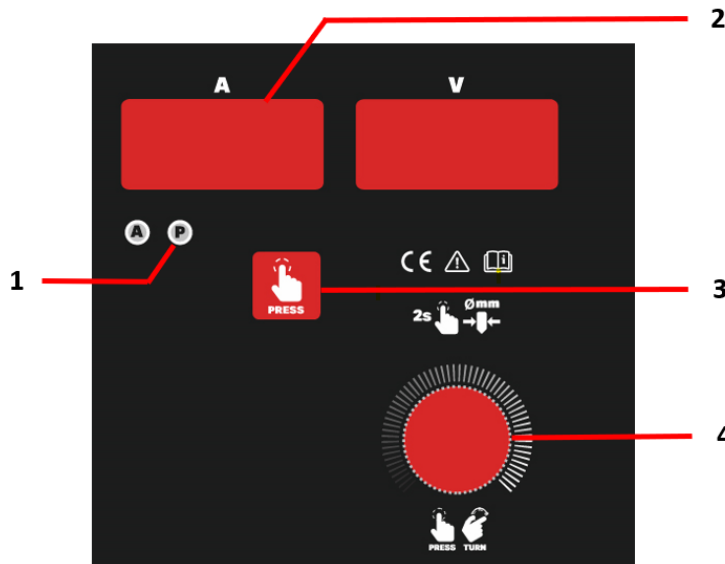

Fig. 8 – Welding memories
- adjust your parameters and press key button (Fig.8 – 3) until LED P (Fig.8 – 1) lits. Then press parameters adjustment turning button (Fig.8 – 4) for 2 seconds until digital display shows P1. Then turn parameters adjustment turning button to the desired memory number. Then press parameters adjustment turning button, the digital display shows MEM.
- Press key button (Fig.8 – 3) until LED P (Fig.8 – 1) lits. Then turn parameters adjustment turning button (Fig.8 – 4) to the desired memory number. Wait 2 seconds are your memory is available.